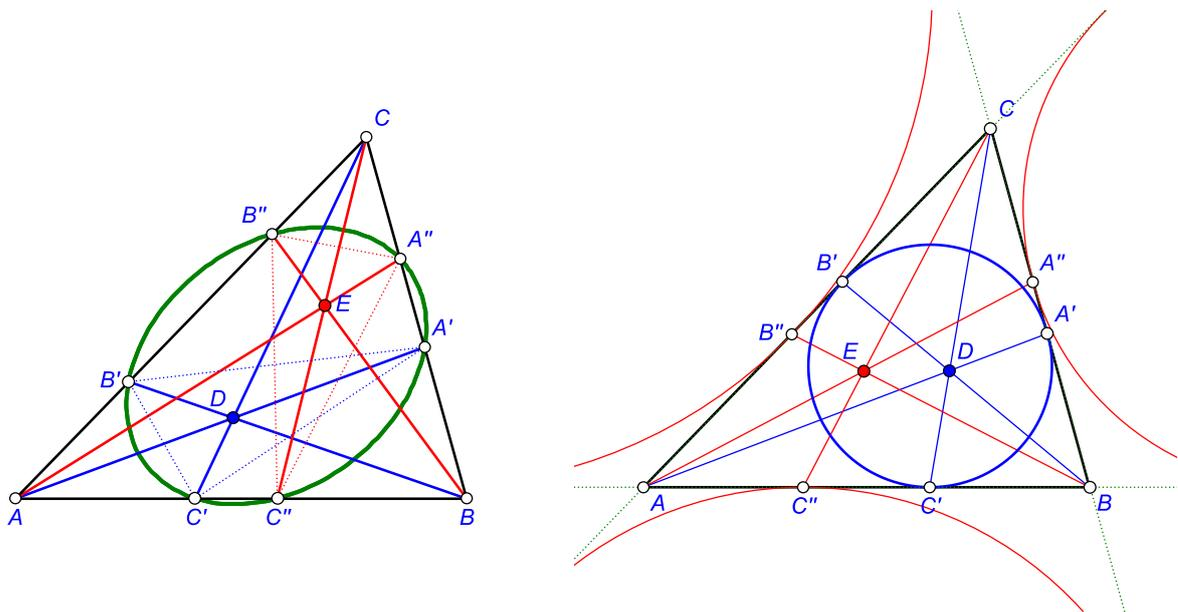

Figure 16
It is well known that in a given triangle ABC the vertices of the cevian triangles of any two different points D, E (not laying on the sidelines of ABC) are conconical (Figure 16, left)⁸. We consider the case of two particular points: the Gergonne point (D) and the Nagel point (E) of a given triangle ABC. The Gergonne point of ABC is the point of concurrence of the line segments connecting the points where the incircle of ABC touches the sides with the opposite vertices. Similarly, the Nagel point of ABC is the point of concurrence of line segments connecting the points where the excircles touch the sides of ABC with the opposite vertices (Figure 16, right)⁹.